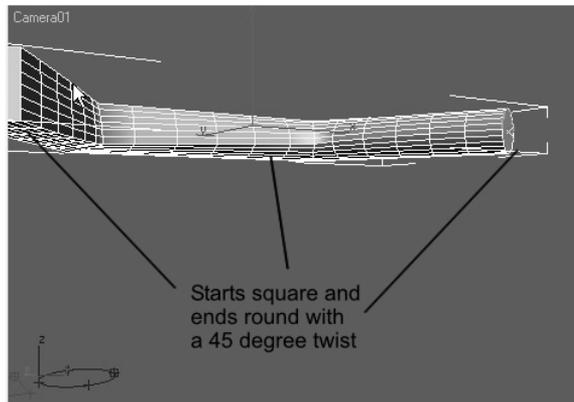

FIGURE 9.25 With a square shape at the start and a round shape at the end, the Duct01 changes form, but has an unwanted twist along the length.
- In the Creation Method rollout, click the Get Shape button to turn it on and pick duct_shape02 (circle) in the Top viewport. The Duct01 now starts as a square cross-section on the left and ends as a round cross-section on the right with a 45 degree twist along the way (see Figure 9.25).